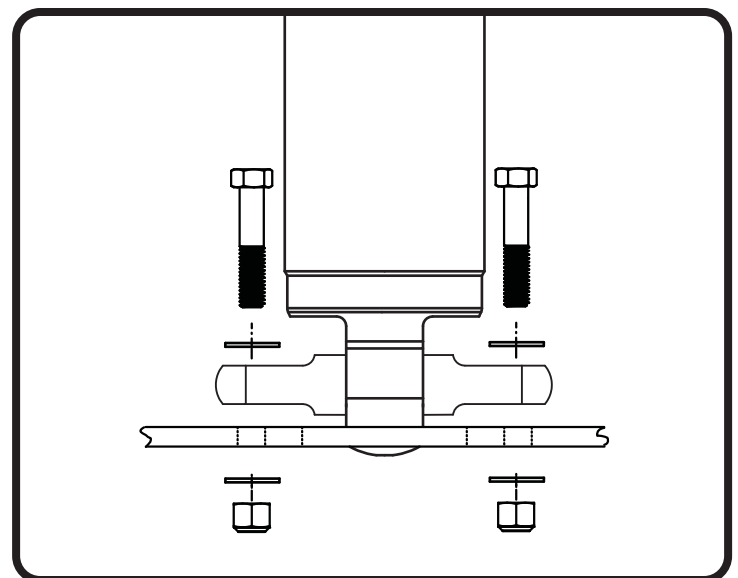

Figure 5
**7.** Raise the lower arm up to the ShockWave and attach the shock to the arm using the 5/16" x 1 1/4" bolts, washer, and Nylok nuts supplied with the lower arms (Figure 5). Torque to **17 ftbs.**